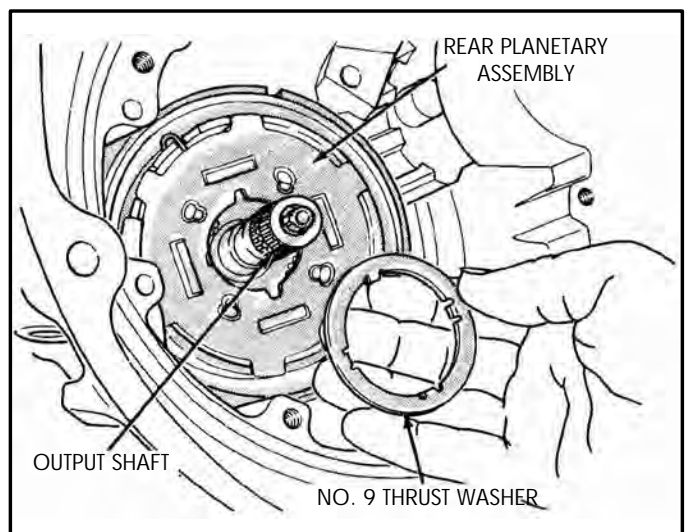

Figure 224
6. Install the number 9 thrust washer, as shown in Figure 224.